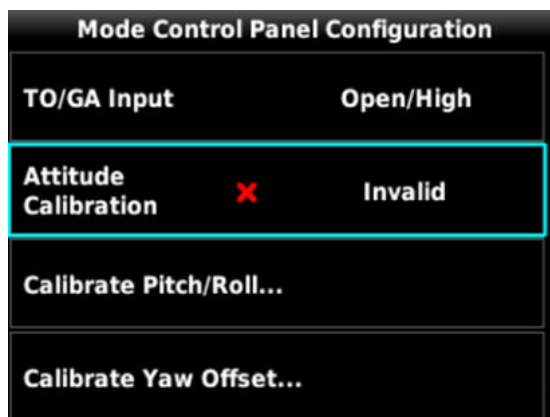

Figure 22-6 – Attitude Calibration Invalid
- d. Verify that there is not a red "X" or "Invalid" shown on the line. Refer to Figure 22-6 below for a representative example.